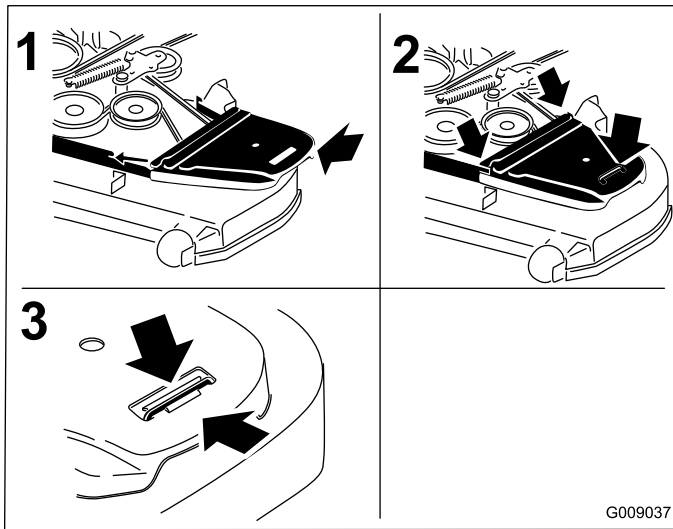

**Figure 75**
10. Install the belt guide on the idler arm shown in Figure 75.
11. Using the ratchet in the square hole, install the idler spring (Figure 75).
5. Use a ratchet in the square hole in the idler arm to remove tension on the idler spring (Figure 75).
7. Remove the belt guide on the spring loaded idler arm shown in Figure 75.
9. Install the new belt around the mower pulleys and the clutch pulley under the engine (Figure 75).